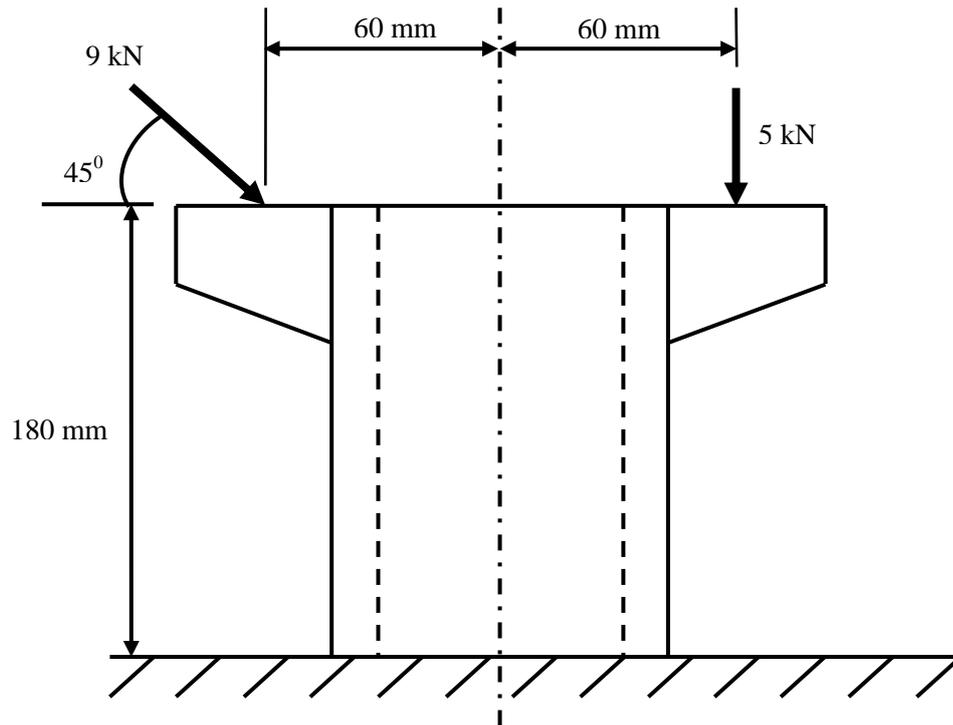

Fig Q6
- (a) the diameter of the copper rod; (4)
- (b) the stress in EACH rod; (4)
- (c) the total extension; (4)
- (d) the stored strain energy in the assembly when extended. (4)
6. A short vertical hollow cylindrical column, 180 mm high and fixed at the base, is 80 mm outside diameter and 10 mm thick. It carries concentrated loads of 9 kN and 5 kN as shown in Fig Q6.